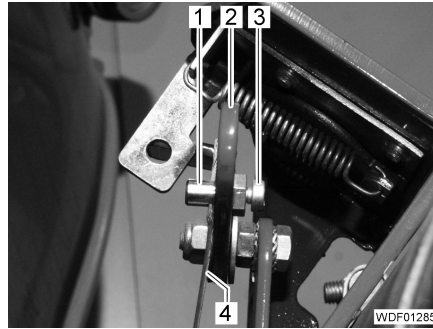

Fig. 321 Fixing a new Bowden cable
- Push the sleeve (Fig. 321,1) through the lever (Fig. 321,2).
- Push the Bowden cable (Fig. 321,4) through the sleeve.
- Screw in the screw (Fig. 321,3) and tighten hand-tight.